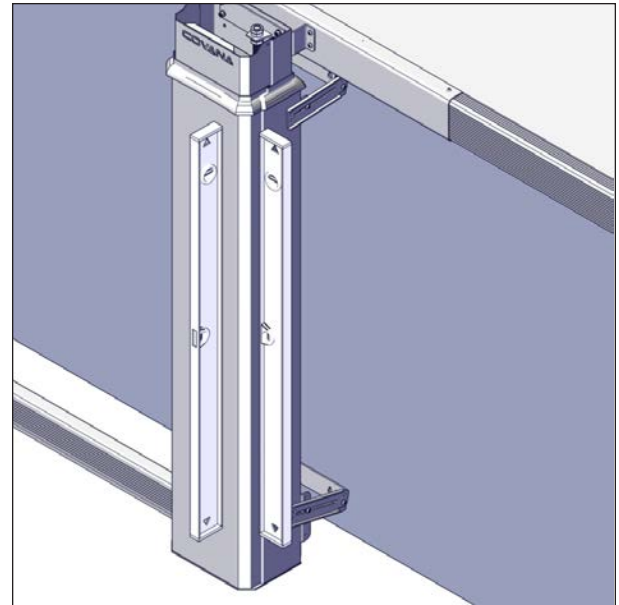

FIGURE 89: POST LEVEL ADJUSTMENTS
19. Use a 48" long level to ensure that the four posts are vertically level, see Figure 89.
22. Check if the posts are still level on both vertical axes. If not, unscrew the mount arms and reposition the sleeves. Use the outer sleeve as a reference. Use the 48" (122 cm) level, see Figure 89.